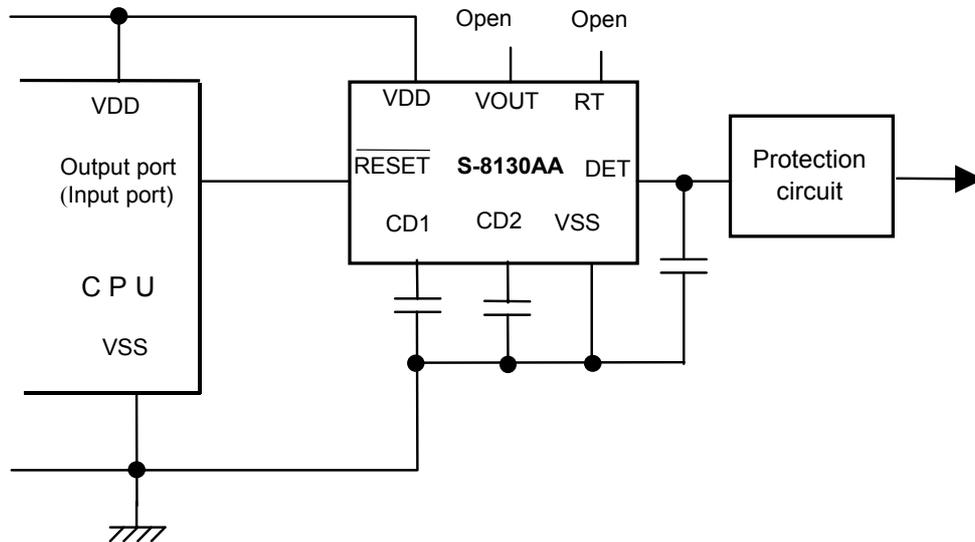

Figure 4
- (1) Since the S-8130AA has a voltage detector inside, control for the $\overline{\text{RESET}}$ pin is not necessary to activate the circuit unlike the **Figure 4**. In this case the $\overline{\text{RESET}}$ pin should be open.
- (2) A capacitor of around 1 μF should be connected to the DET pin to prevent malfunction caused by a noise due to the power on.
- (3) Nothing should be connected to the VOUT pin and the RT pin. These pins should be left open.
- (4) Do not apply an electrostatic discharge to this IC that exceeds the performance ratings of the built-in electrostatic protection circuit.